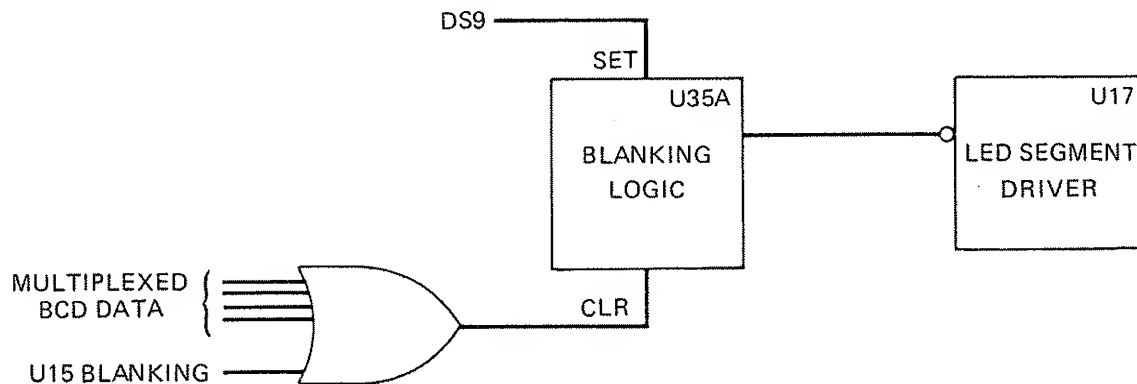

Figure 3-12. Display Blanking Logic
3-124. The purpose of the Display Blanking Logic is to suppress all but one leading zero occurring in the display. The Display Blanking Logic operation is outlined in Figure 3-12. Flip-flop U35A examines the nine digits from the left (Digit 9, the MSD) to the right (Digit 1, the LSD), and will suppress all but one leading zero. U35A is used as an R-S FF. While it is set, it blanks U17, the LED Segment Driver, and will continue to blank U17 until it is cleared. It is set during DS9 and will be cleared by one of two things: (1) Any non-zero BCD data preceding the decimal point; 2) The BL (blanking) output of U15 if a zero is to precede the decimal point. If a clear input to U35A occurs during DS9, it will override the set input and allow display of DS9.